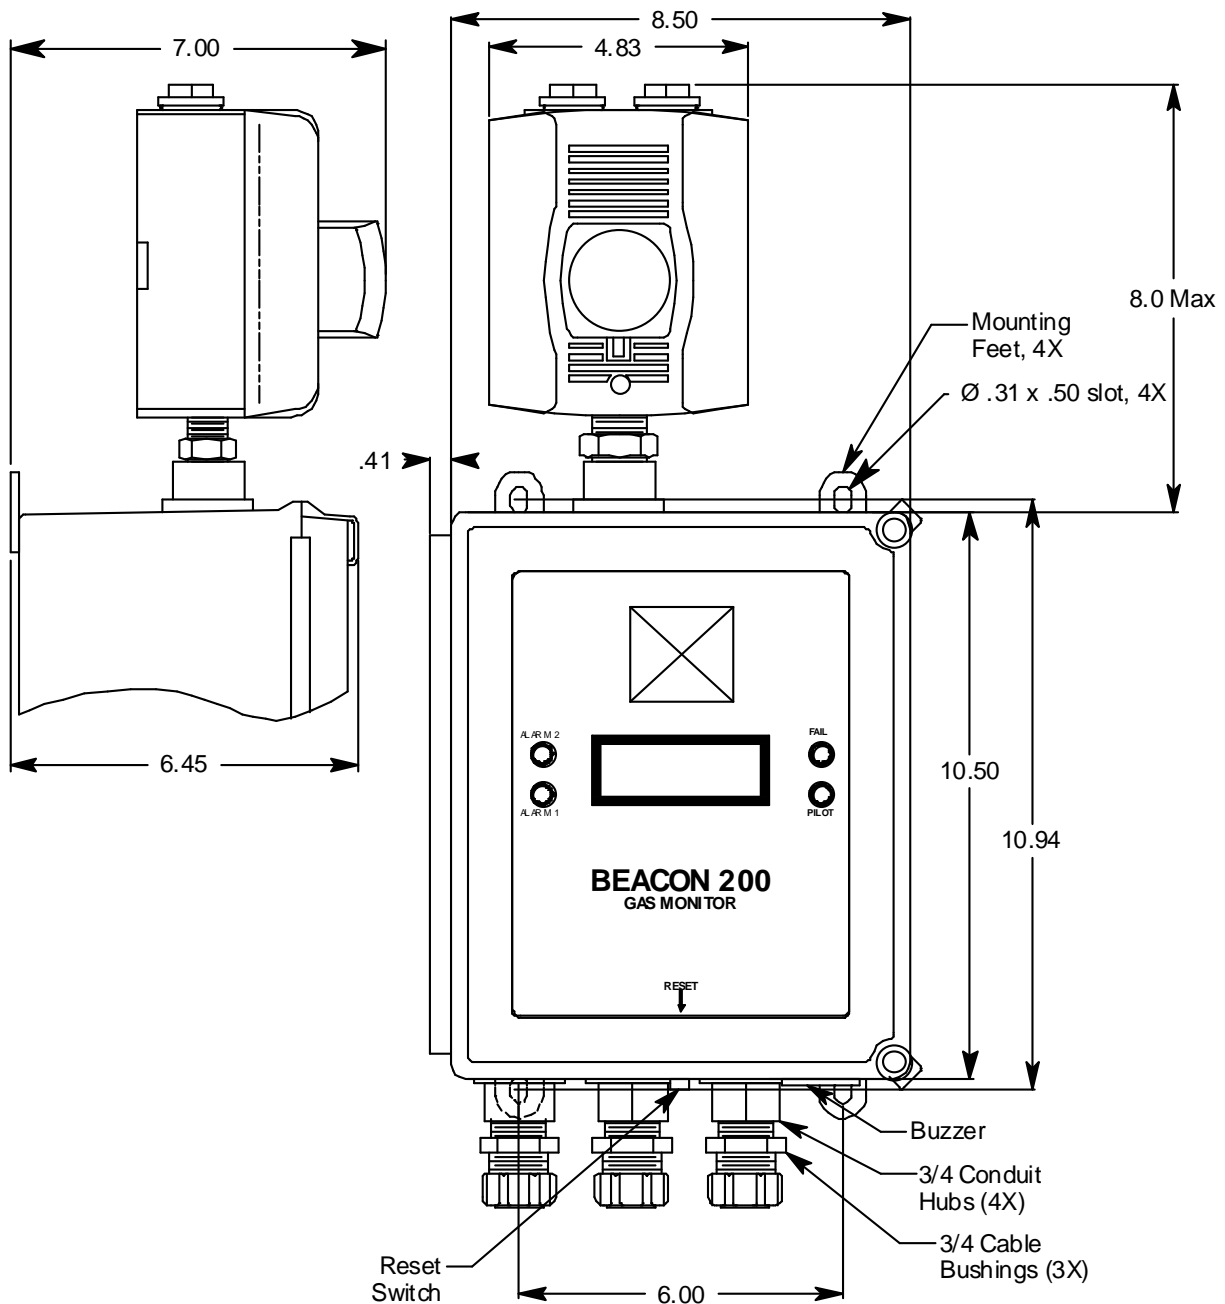

Figure 7. Rig Monitor Outline and Mounting Dimensions
4. The Rig Monitor is shipped with the mounting feet positioned behind the housing. Loosen the screws that secure the feet to the housing, rotate the feet to their mounting position (as shown in Figure 7), then tighten the screws.
5. Insert 1/4 in. or 5/16 in. screws through the slots in the mounting feet at each corner of the housing to secure the housing to the mounting surface (see Figure 7).